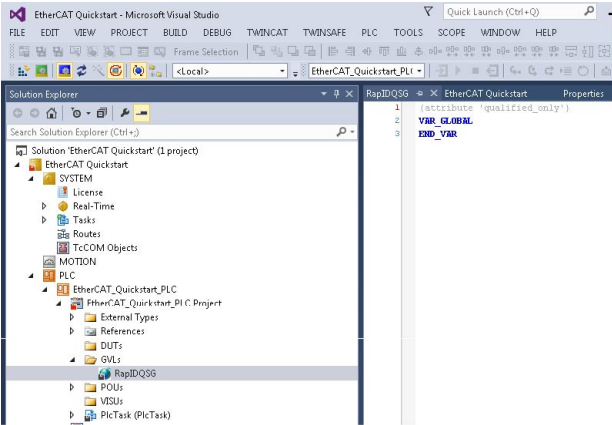

Figure 41. Global Variable View
5. Click **Global Variable List** and rename this variable as desired. In this example, the variable name is **RapidQSG** (see Figure 40), and click **Open**. Once the variable is named, the **Global Variable View** window appears (see Figure 41).